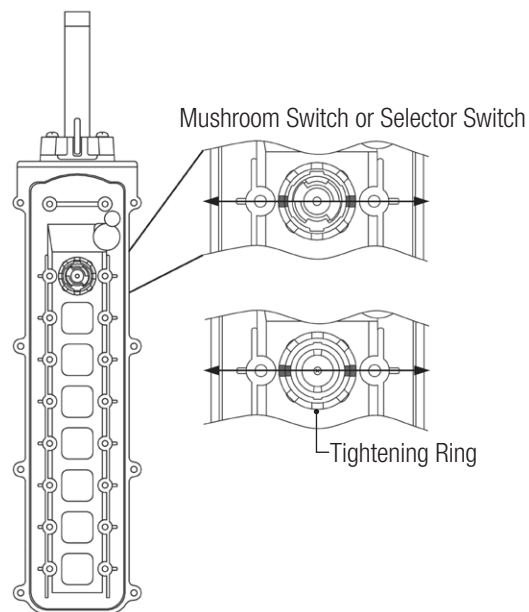

Figure: 4.3
4.2.2 Install switch frame by inserting it from the front of the enclosure through the square hole. Make sure the gasket and legend are in the correct position. From the back, install the tightening ring, make sure to align notches of the tightening ring with the tabs of the switch, and tighten (see Figure: 4-3).